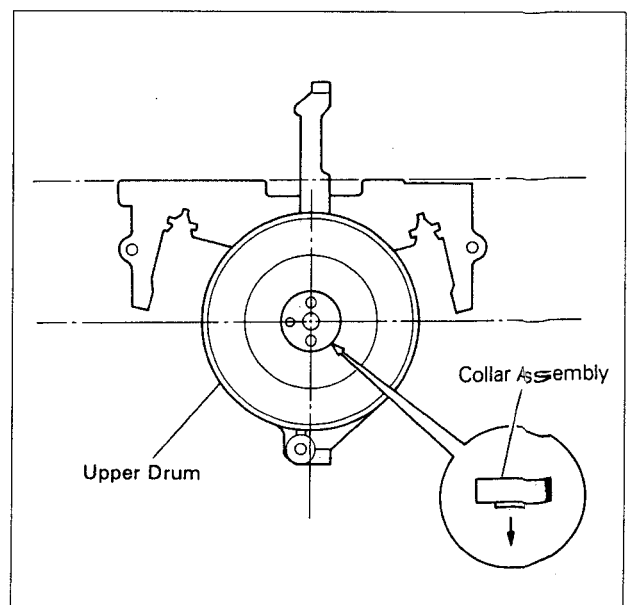

Fig. 2-6-7 Collar assembly-1
- 3) Note the top and bottom of the Collar Assembly and determine the position as indicated in Fig. 2-6-7.